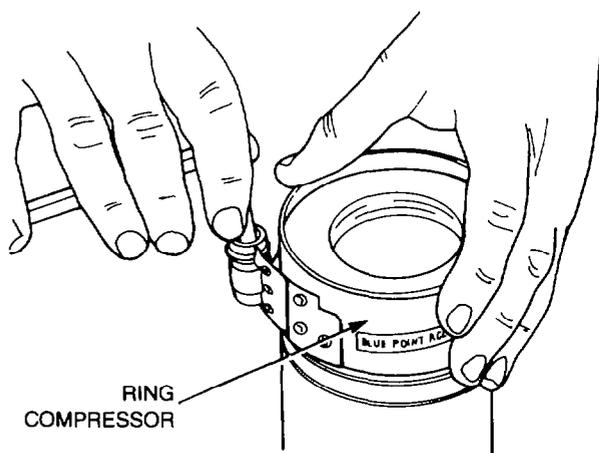

Figure 308 — Compressing Piston Rings
- e. Install the O-rings and the piston rings onto the piston and lubricate the housing bore and the piston with clean engine oil. Then using a piston ring compressor, compress the piston rings (see Fig. 308).